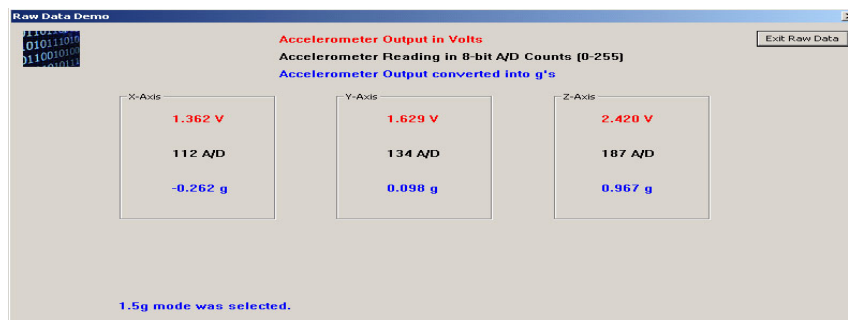

Figure 3. Raw Data Demonstration
1. Check for the ping packet. The Accelerometer application sends a ping packet to the PC_Radio every two (2) seconds as indicated by LED2. The Accelerometer Board quickly blinks LED2 indicating that the ping packet is sent. The PC_Radio receives the ping and toggles LED2 upon reception. Once connectivity between the PC_Radio and the Accelerometer Board is verified, go to Step 2.
4. Select the “Raw Data” applet from the Triax application. The Raw Data applet shows the X, Y, and Z axes A/D values as reported by the Accelerometer Board. When the board is laying flat, the raw values should read approximately 0g for both the X and Y axes. However, the Z axis should read approximately 1g. As shown in Figure 3, when the Accelerometer Board is moved, the values of the X, Y, and Z axes are updated on the Raw Data applet.